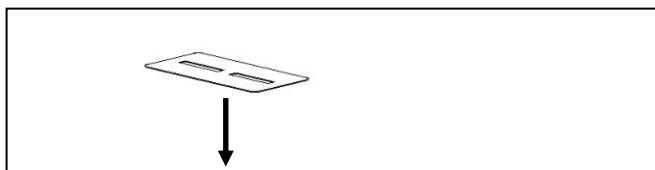

Figure 69 - Humidifier placement on the equipment
- v) To complete the assembly of the equipment, insert the humidifier (7) and its cover (8) in the sequence shown in Figure 69 on top of the upper finishing face.